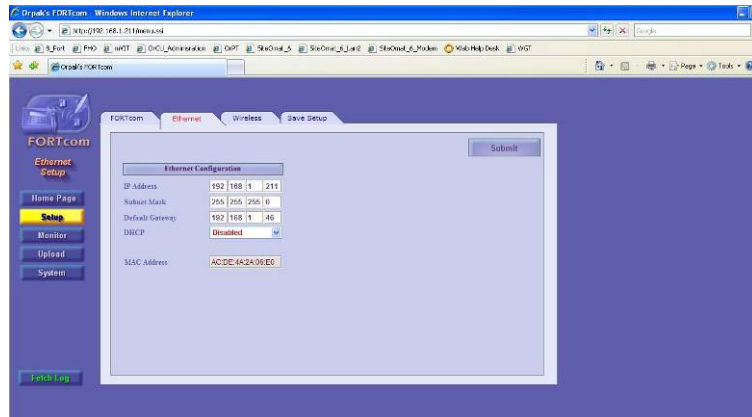

Figure 1-7.– FortCOM Web Site – Ethernet Setup Screen
7. Select the **Ethernet** tab. The following screen appears (see Figure 1-7):